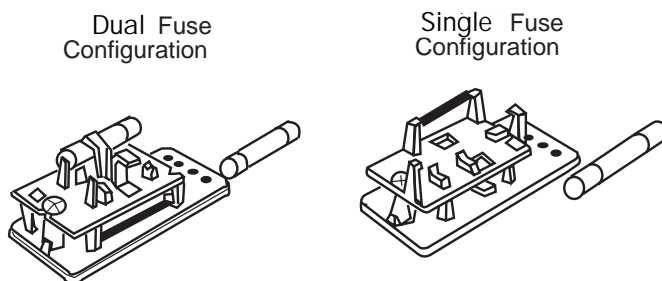

Figure 2-5 Fuse Installation
2. Orient the fuse block for the desired voltage (Figure 2-5) as follows: